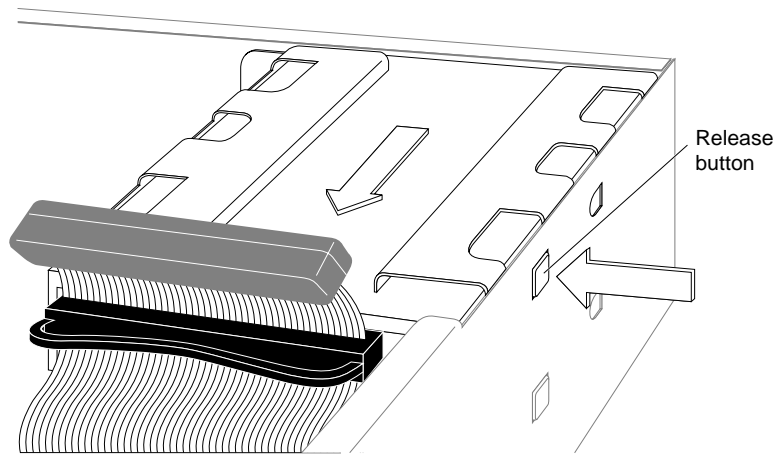

Figure 8-31 Removing the Floptical Drive and Bracket
6. Remove the floptical drive and bracket, (or the empty bracket if no drive is installed), by pressing the release button that protrudes through the hole in the side of the chassis and pulling the unit toward you. (See Figure 8-31.)